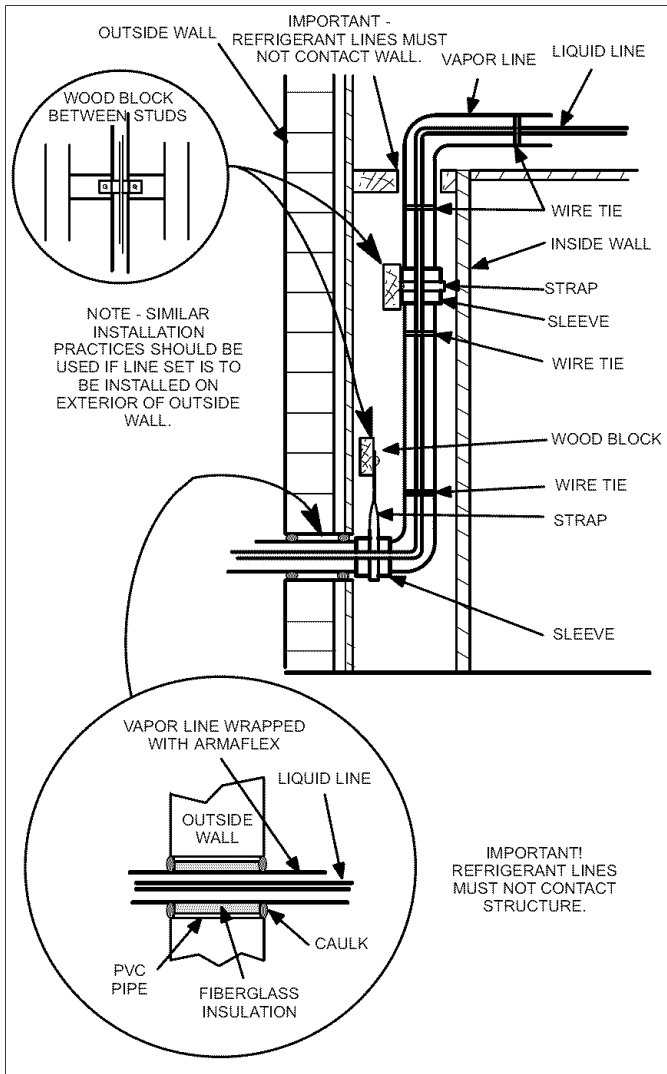

Figure 17. Refrigerant Line Sets: Installing Vertical Runs (New Construction Shown)
- Installation of line sets on vertical runs is illustrated in figure 17 on page 10.